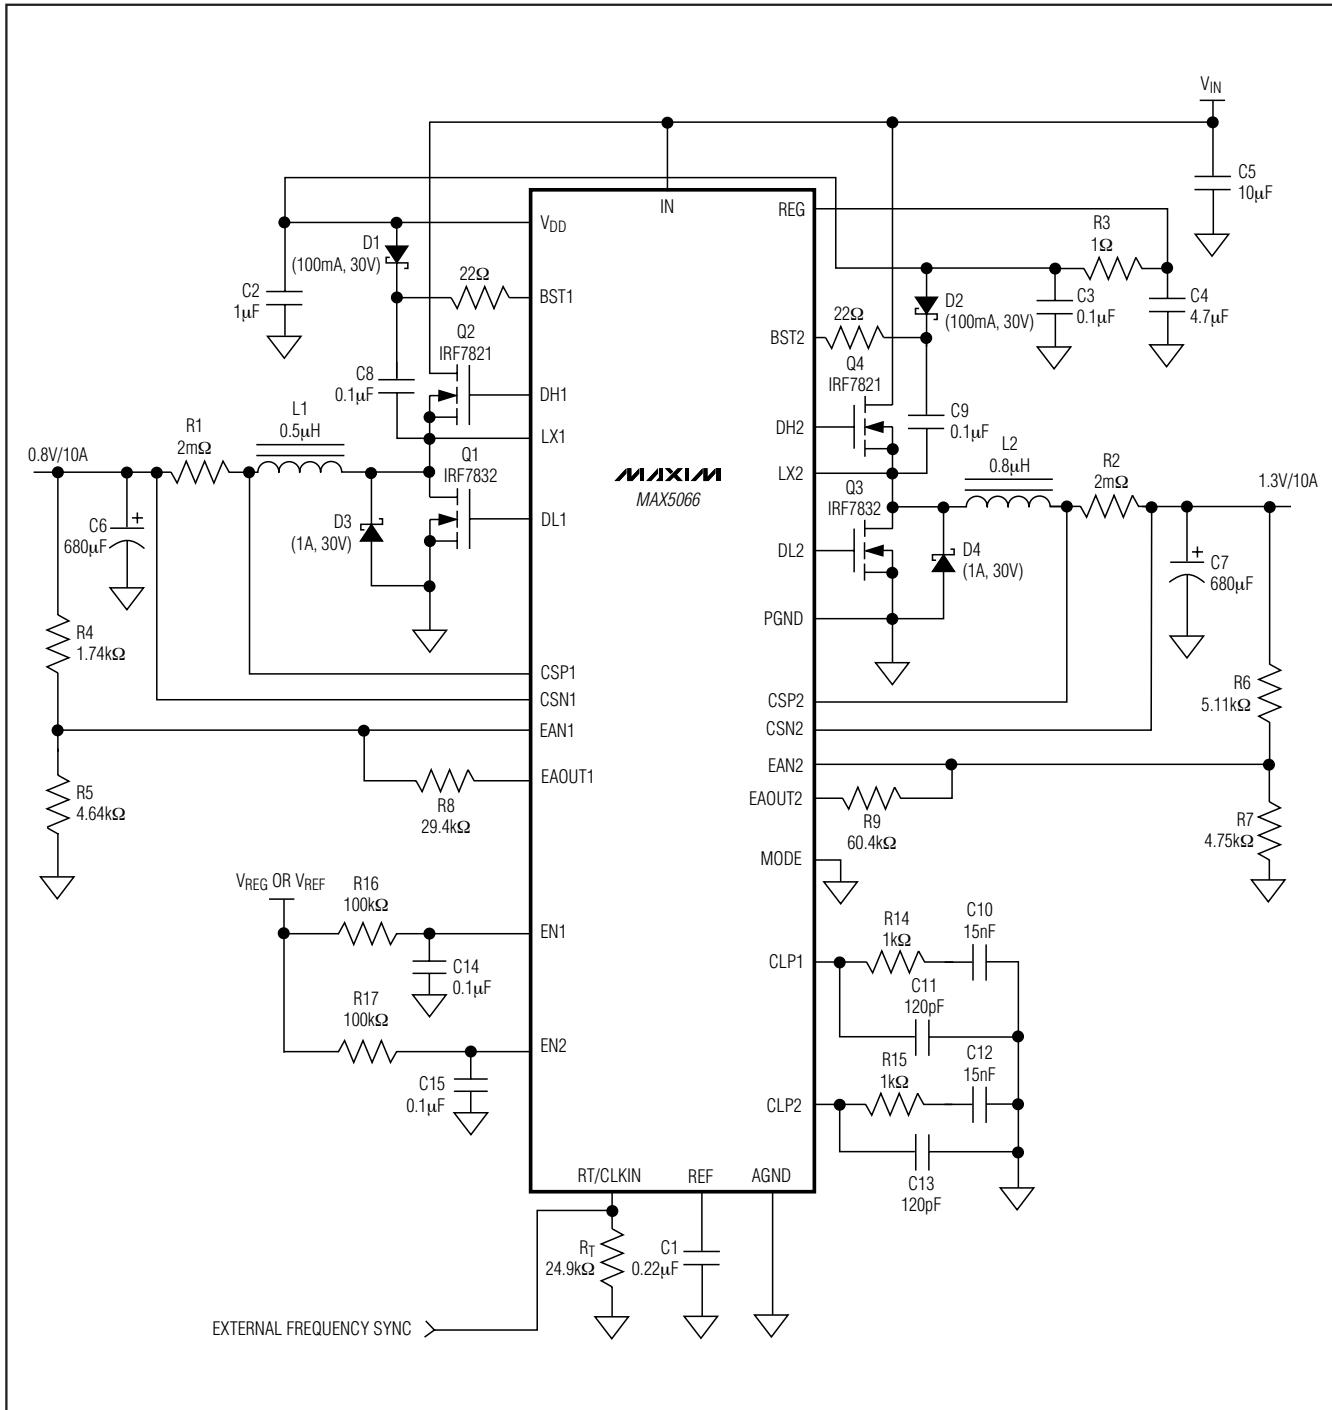

Figure 6. Dual-Output Buck Regulator
where I_{IN} is the quiescent supply current into IN (4mA, typ), Q_{GQ1} , Q_{GQ2} , Q_{GQ3} , Q_{GQ4} are the total gate charges of MOSFETs Q1 through Q4 at $V_{GS} = 5V$ (see Figure 6), and f_{SW} is the switching frequency of each individual phase.
diodes D1 and D2 (see Figure 6). Connect a 0.1μF ceramic capacitor between BST_ and LX_.
Minimize the trace inductance from BST_ and VDD to rectifier diodes, D1 and D2, and from BST_ and LX_ to the boost capacitors, C8 and C9 (see Figure 6). This is accomplished by using short, wide trace lengths.
The compensation network at the current-error amplifiers (CLP1 and CLP2) provides an inherent soft-start of the output voltage. It includes (R14 and C10) in parallel with C11 at CLP1 and (R15 and C12) in parallel with C13 at CLP2 (see Figure 6). The voltage at the current-error amplifier output limits the maximum current available to charge the output capacitors. The capacitor at CLP_ in conjunction with the finite output-drive current of the current-error amplifier yields a finite rise time for the output current and thus the output voltage.
An internal oscillator generates the 180° out-of-phase clock signals required for both PWM modulators. The oscillator also generates the 2Vp-p voltage ramps necessary for the PWM comparators. The oscillator frequency can be set from 200kHz to 2MHz by an external resistor (RT) connected from RT/CLKIN to AGND (see Figure 6). The equation below shows the relationship between RT and the switching frequency:
output, voltage-regulating applications where the duty cycle is less than 50%, choose high-side MOSFETs (Q₂ and Q₄, Figure 6) with a moderate R_{DS(ON)} and a very low gate charge. Choose low-side MOSFETs (Q₁ and Q₃, Figure 6) with very low R_{DS(ON)} and moderate gate charge. The driver block also includes a logic circuit that provides an adaptive nonoverlap time (30ns typical) to
where I_{MAX} is the full load current of the regulator. V_{OUT} is the output voltage of the same regulator and C_{IN} is C_5 in Figure 6. The ESR of the input capacitors wastes power from the input and heats up the capacitor. Reducing the ESR is important to maintain a high overall efficiency and in reducing the heating of the capacitors.
where I_{LOAD_STEP} is the step in load current and $t_{RESPONSE}$ is the response time of the controller. Controller response time depends on the control-loop bandwidth. C_{OUT} is C_6 and C_7 in Figure 6.
where ΔV_{OUT} is the allowable drop in voltage from no load to full load. RF is R8 and R9, R1 is R4 and R6, R2 is R5 and R7 in Figure 6.
For stability of the current loop, the amplified inductor-current downslope at the negative input of the PWM comparator (CPWM1 and CPWM2) must not exceed the ramp slope at the comparator's positive input. This puts an upper limit on the current-error amplifier gain at the switching frequency. The inductor current downslope is given by V_{OUT}/L where L is the value of the inductor (L1 and L2 in Figure 6) and V_{OUT} is the output voltage. The amplified inductor current downslope at the negative input of the PWM comparator is given by:
where R_{SENSE} is the current-sense resistor (R1 and R2 in Figure 6) and $g_M \times R_{CF}$ is the gain of the current-error amplifier (CEA₁) at the switching frequency. The slope of the ramp at the positive input of the PWM comparator is $2V \times f_{SW}$. Use the following equation to calculate the maximum value of RCF (R14 or R15 in Figure 6).
where CCF is C10 and C12 in Figure 6.
where C_{CF} is C11 and C13 in Figure 6.